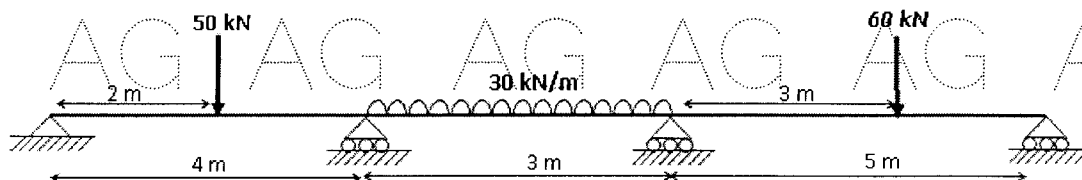

Figure: 9
8. Analyse the continuous beam shown in figure 9, by slope-deflection method.